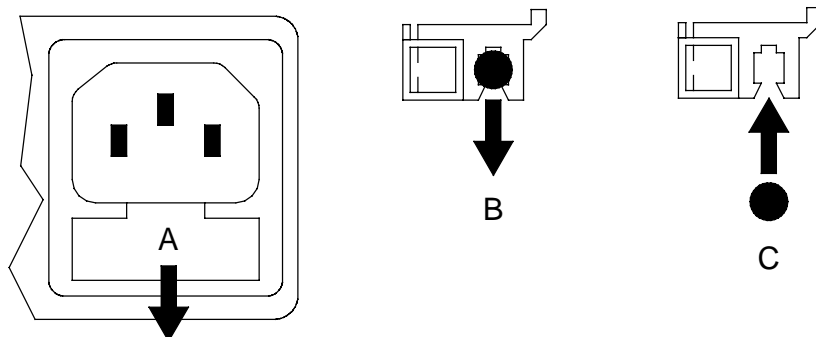

Figure 15 – Changing the Mains Fuse
Referring to **Figure 15**, remove the power cable, use a small flat bladed screwdriver to pry up the tab on the fuse carrier (A) and pull it out. Push the blown fuse out of the clip in the carrier (B) and dispose of it. Fit a new fuse in the clip (C) and push the carrier back into the unit so that it clicks home.